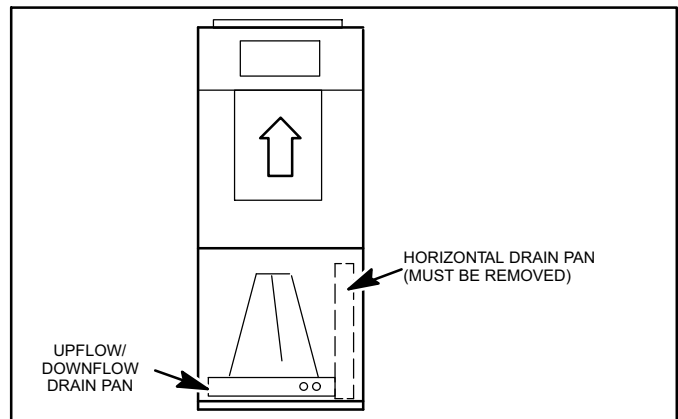

Figure 1. Upflow Configuration
3. Place unit in desired location. Make sure that unit is level. Connect return and supply air plenums as required using sheet metal screws as illustrated in figure 1.